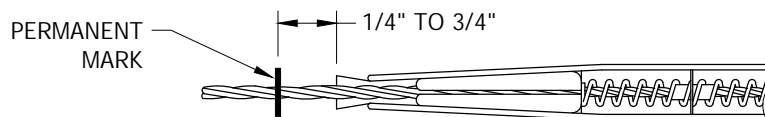

FIGURE 5
- D. THE CONDUCTOR MUST BE INSERTED INTO SLEEVE THE FULL LENGTH INDICATED BY THE PERMANENT MARK. THIS LENGTH SHALL BE MARKED ON THE CONDUCTOR, AND THE CONDUCTOR SHALL BE HELD AT THIS POINT DURING INSERTION. MAKE SURE THAT THE SECTION OF CONDUCTOR TO BE INSERTED INTO THE SLEEVE IS STRAIGHT. AS TENSION IS APPLIED THE CONDUCTOR WILL MOVE APPROXIMATELY 1/4" TO 3/4", DEPENDING ON CONDUCTOR AND SPLICE SIZE, TOWARD THE OPEN END OF THE SPLICE AS THE JAWS MOVE TOWARD A "SET" POSITION. SEE (FIGURE 5). A CONDUCTOR THAT IS ON THE SMALL END OF THE CONDUCTOR RANGE WILL MOVE MORE THAN A LARGER CONDUCTOR IN THE SAME SPLICE. THE AUTOMATIC SLEEVES HAVE AN INTERNAL PILOT CUP WHICH CONFINES THE STRANDS DURING INSERTION. THE CONDUCTOR MUST NOT BE TWISTED OR BENT DURING THE INSERTION. TWISTING TENDS TO SEPARATE THE STRANDS, CAUSING THEM TO INTERFERE WITH JAW OPERATION.